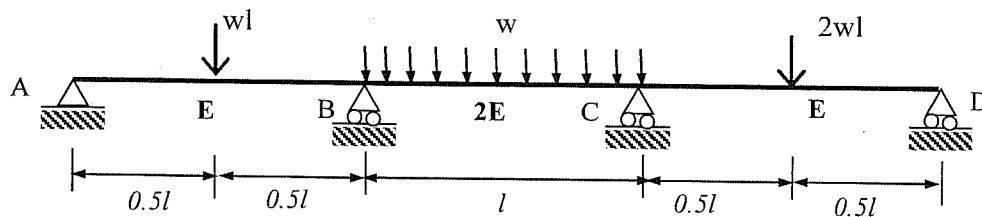

Figure Q4
- (ii) A continuous beam (ABCD) is shown in Figure Q4. Flexural rigidities of members AB and CD are equal to  $EI$  and member BC is  $2EI$ . Uniformly distributed load ( $w$ ) is acting on member BC and two concentrated loads  $wl$  and  $2wl$  in members AB and CD, respectively.